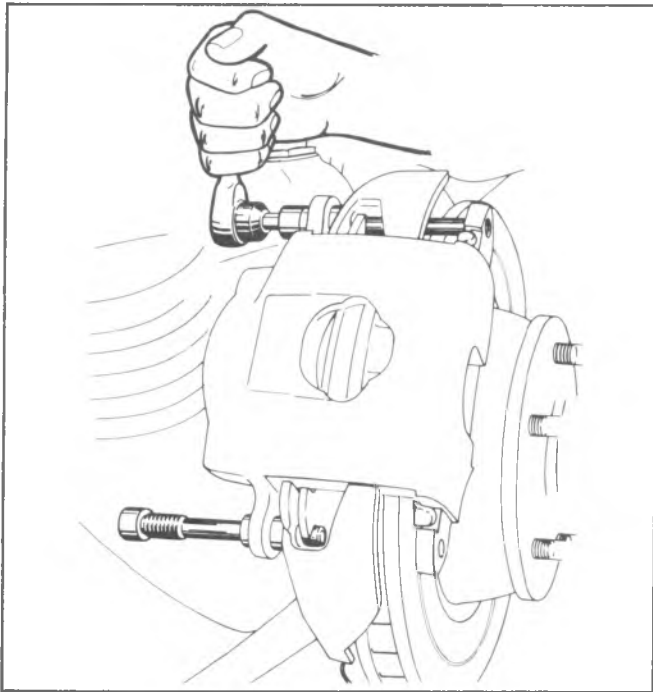

Fig. 5-21-Removing Mounting Bolts
3. It is not necessary to disconnect the brake hose from shoe and lining replacement. Remove the two mounting bolts which attach the caliper to the support bracket (fig. 5-21). Lift the caliper off the rotor and remove the inboard shoe. *Dislodge the outboard shoe and position the caliper on the front suspension arm so that the brake hose will not support the weight of the caliper. Remove the shoe support spring from the cavity in the piston.*